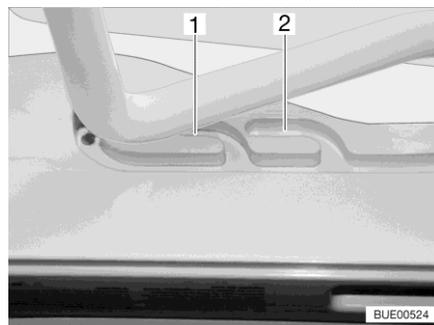
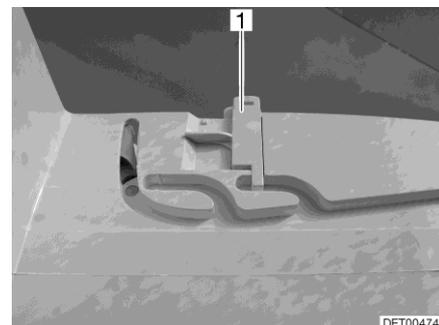

Fig. 122 Guide (ventilation position)
Fig. 123 Lock (ventilation position)
The Heki skylight can be put in two ventilation positions: Bad weather position (Fig. 122,1) and central position (Fig. 122,2). Depending on the model, the skylight can be locked in the central position with both left and right latches (Fig. 123,1) on the skylight frame.
- Push the bar slightly upwards and into the selected guide (Fig. 122,1 or 2) and lock if necessary.